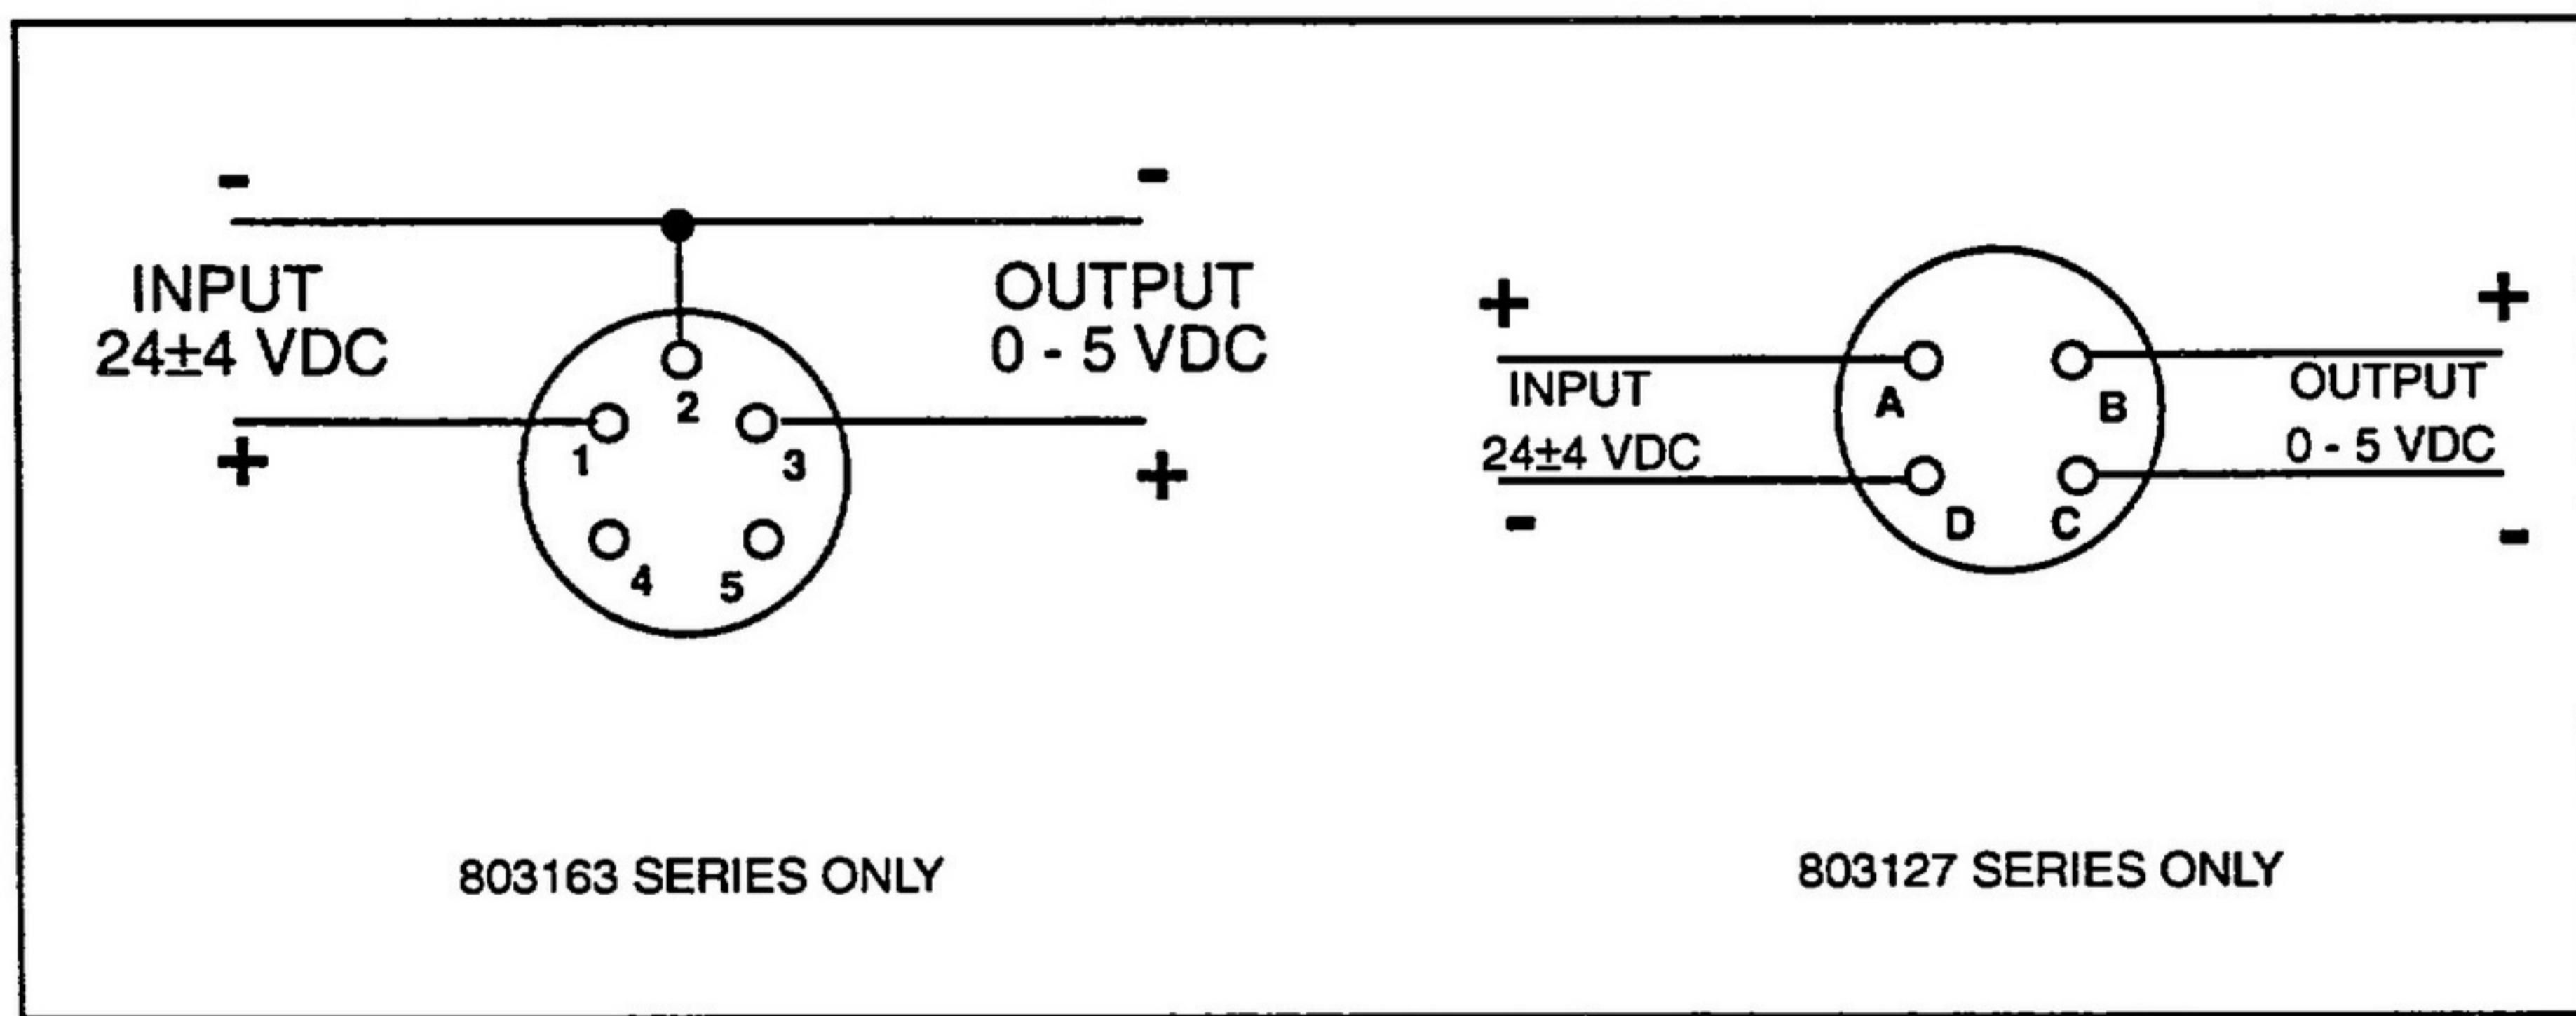

Figure 102 Transducer Connections - Output Voltage
- (3) Connect the 24 ± 4 VDC power supply and test probes of the test meter to the appropriate terminal pins of the transducer assembly. See Figure 102 for connection points.